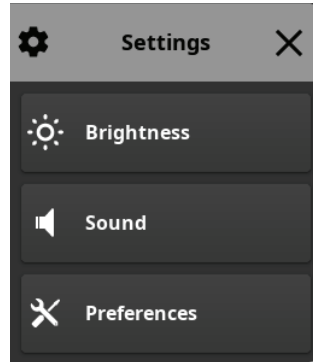

Figure 18 – Settings Menu Dialog
1. From the main control panel display, touch the SETTINGS button. The SETTINGS dialog menu will appear (Figure 18).